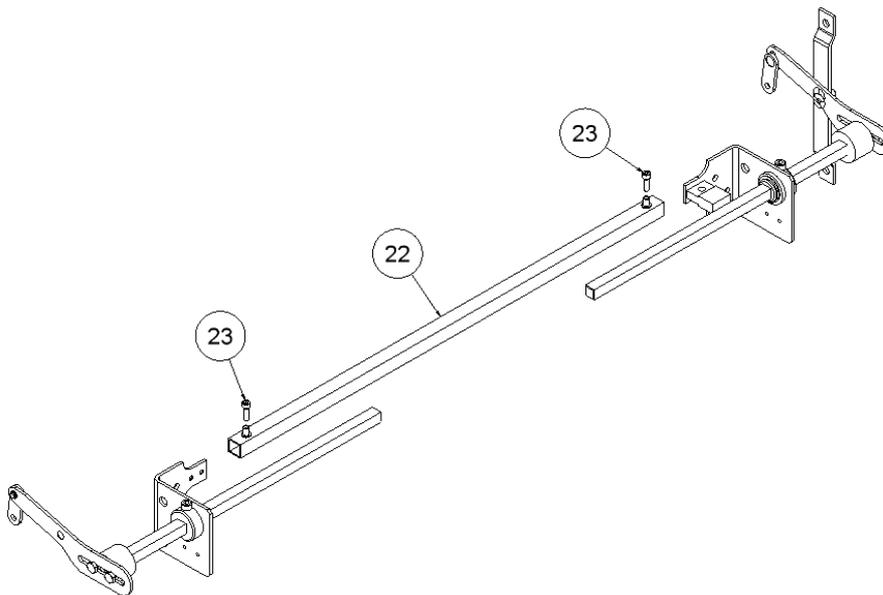

Figure.6
**7. DRIVING BAR AXLE PLACING:** The joined arms must be introduced in endings of the driving bar axle (**22**) and must be screwed through M6 x 20 DIN 912 screws (**23**). The width of the driving bar can be adjusted introducing more or less the arms into the axle - Fig.6 -.